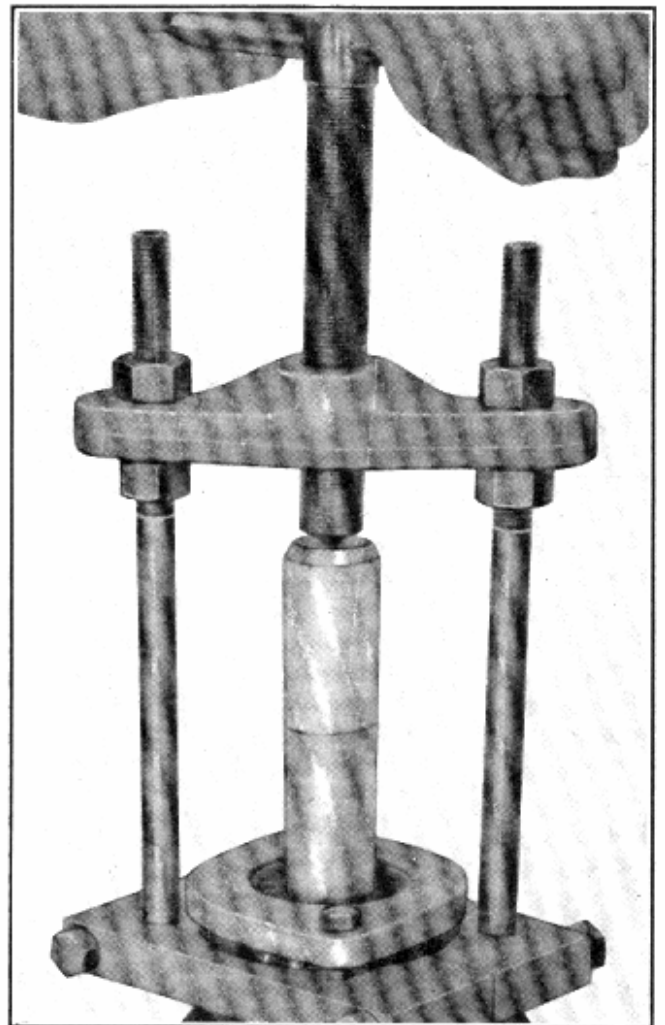

Fig. 5—Removing Tapered Roller Bearings, Tool No. C.S.-1047
2. Use bearing puller (C.S. 1047) as illustrated in Fig. 5, and remove the mainshaft front bearing (51).
3. Place the mainshaft (53) and main drive gear (52) in an arbor press with the front end down. Support the assembly by the gear (52) and press on the rear end of the main drive shaft. This operation will remove the rear mainshaft bearing (51) and the gear from the shaft.
**NOTE:**—Bearing puller (C.S. 1047) may be used to remove any of the transfer case shaft bearings as shown in Fig. 5.
2. Remove the lock rings (55) from the nuts (56) and remove both nuts.
3. Using bearing puller C.S. 1047, as shown in Fig. 5, remove the front bearing (57) from the shaft.